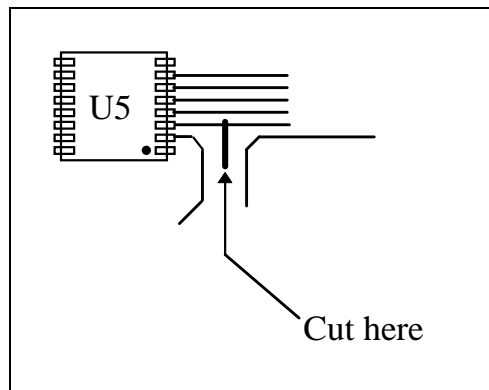

Figure 6 - RMIC RS-232 Receive Mod (PWB top)
1. On the top of the board, the solder run to U5-3 was cut as shown in Figure 6.